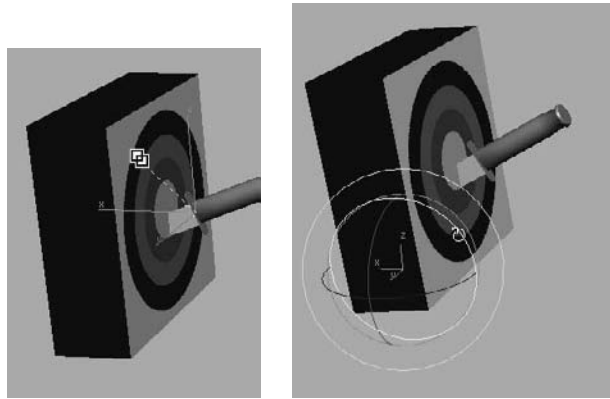

Figure 8.62
1. Go to frame 30, where the knife impacts. Select the Select and Link tool. Select the knife and drag it to the target as shown in Figure 8.62. Nothing should change until you animate the target object.
2. Move the Time slider to frame 34 and press N to activate the Auto Key tool. With the Select and Rotate tool, select the target object and rotate it back about 5 degrees as shown in the second image in Figure 8.62. The pivot of the target has already been placed properly, at the bottom back edge.